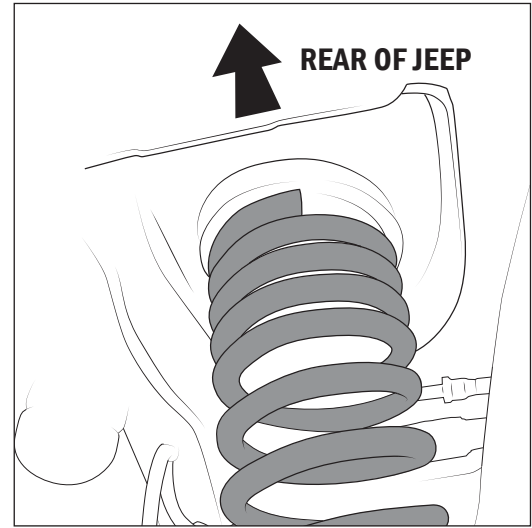

Figure 5
2. Install AEV springs making sure to properly index them on the axle spring seat (fig. 5).